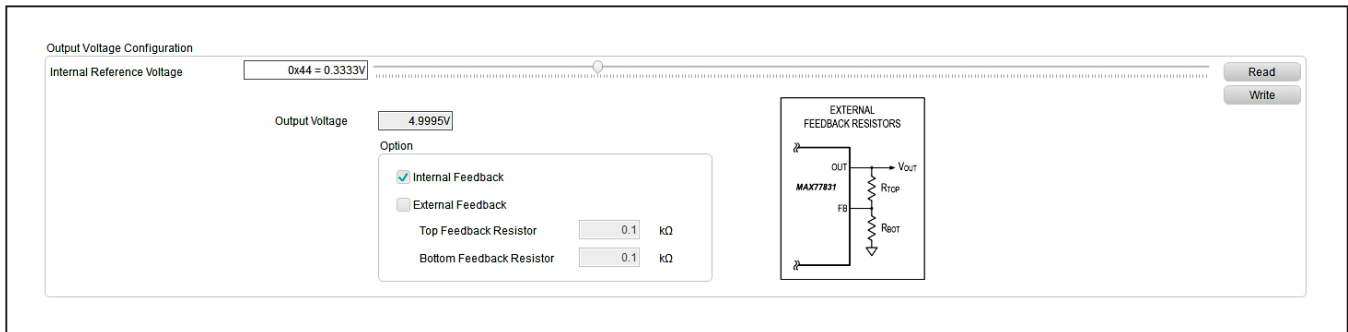

Figure 9. Configuration Tab - Output Voltage Configuration Section
The Output Voltage Configuration section (Figure 9) configures the EV kit IC’s output voltage. The output voltage is changed by adjusting the internal reference voltage. Drag the slider to the desired internal reference voltage (or output voltage) and click **Write** to change the output voltage. Clicking **Read** returns the programmed internal reference voltage (or output voltage) to the GUI.
**Note:** Changing the Internal Feedback or External Feedback checkboxes (Figure 9) does NOT change the feedback configuration on the EV kit. It is only for calculating and displaying the correct output voltage value on the GUI software. If you wish to change the EV kit’s feedback configuration, see the EV Kit Hardware Output Voltage Configuration section for details.